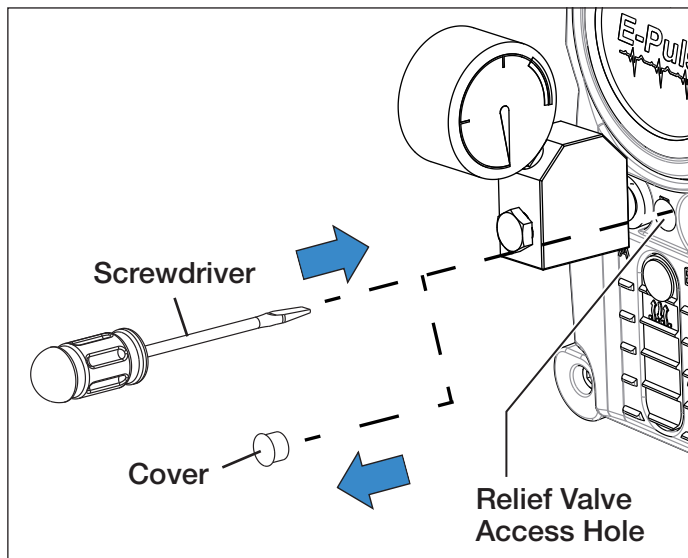

Figure 11, Pressure Relief Valve Adjustment
7. Insert a flat blade screwdriver into the notch above the relief valve access hole. Remove the protective cover. See Figure 11.